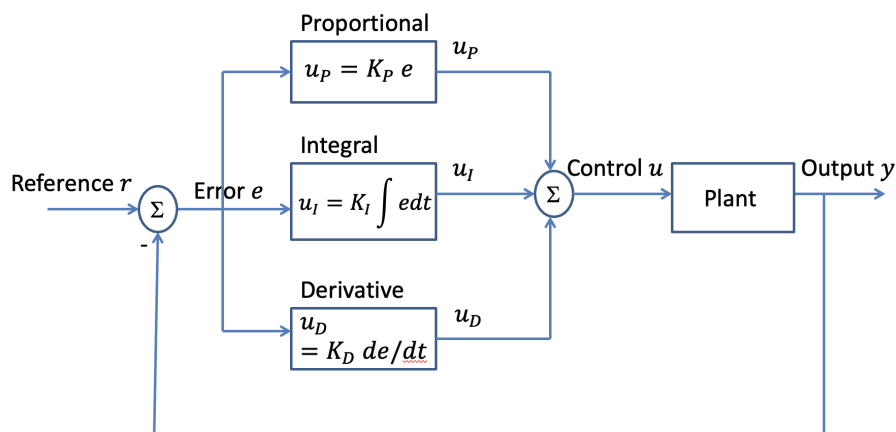

Figure 6: Generic representation of a PID controller.
- (m) To reduce overshoot while keeping a relatively short settling time, we could look at how fast the error is *changing* over time—in a sense, “look into the future.” What modifications would you make to your PI pseudo-code to incorporate this rate of change? (Hint: the continuous version is presented in Figure 6.)